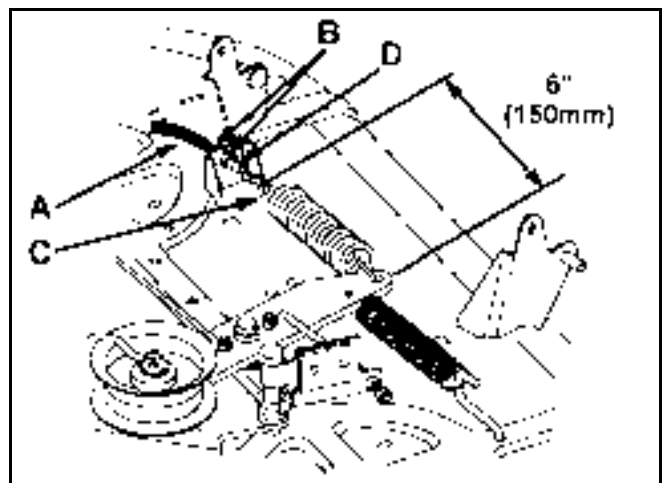

Figure 220
12. Engage blade control (PTO) lever on dash. Measure distance between hook ends of idler spring (Figure 220). Adjust jam nuts so 6" (150mm) dimension is obtained (Figure 220).